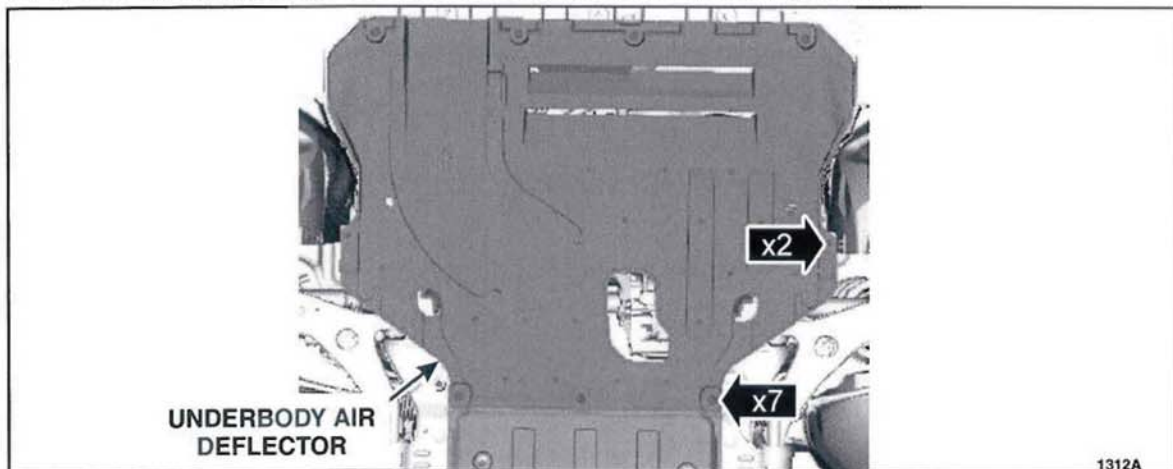

FIGURE A4
13. Remove the retainers and the front underbody air deflector. See Figure A4.